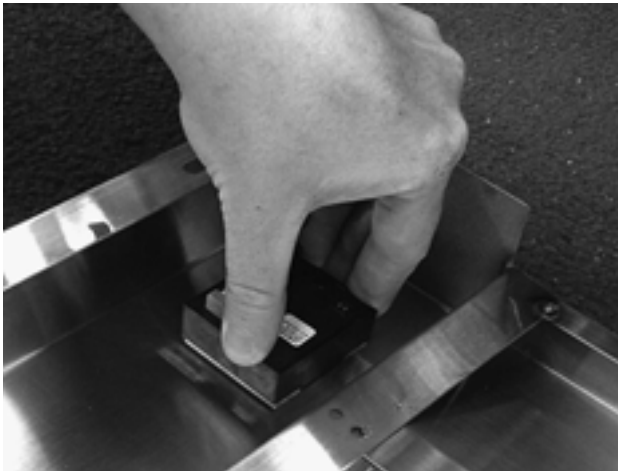

Figure 4-35
8. Carefully align the module with the rectangle cutout in the hatch cover (Figure 4-35).